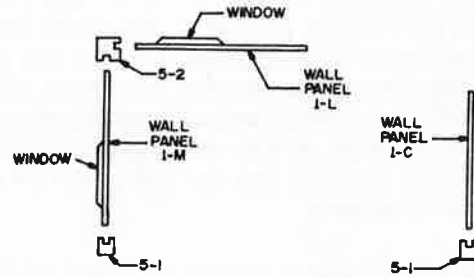

FIG. 25
7. ☐ Tie strings around the assembly as shown in Figure 25. Use rubber bands to keep the string tight. This will keep the walls pulled in against the floor piece. Stick pins into the wall panels at floor level to wedge the floor down against the floor supports.